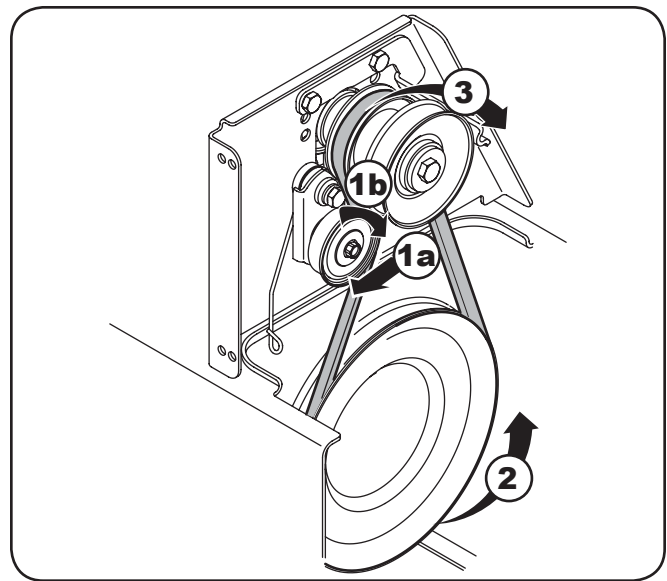

Figure 7-9
- b. Slide the drive belt off the idler pulley. See Figure 7-9. Carefully release the idler pulley.